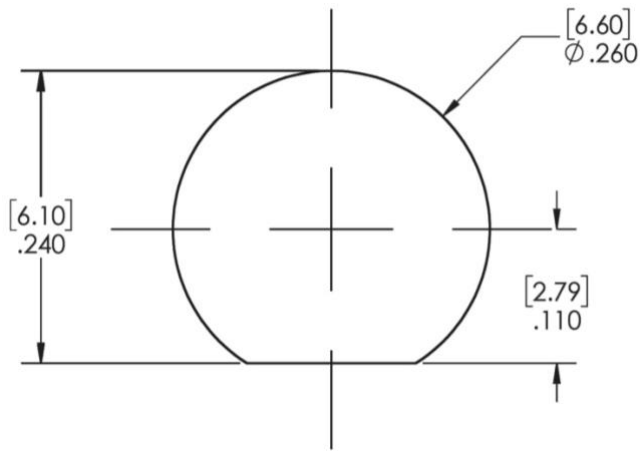

Figure 2 – Recommended mounting hole for 1/4-36UNS-2A threaded antenna with flat
4. Determine best location for external antenna position and create an opening to mount the antenna and bulkhead (See Figure 2 for measurements).